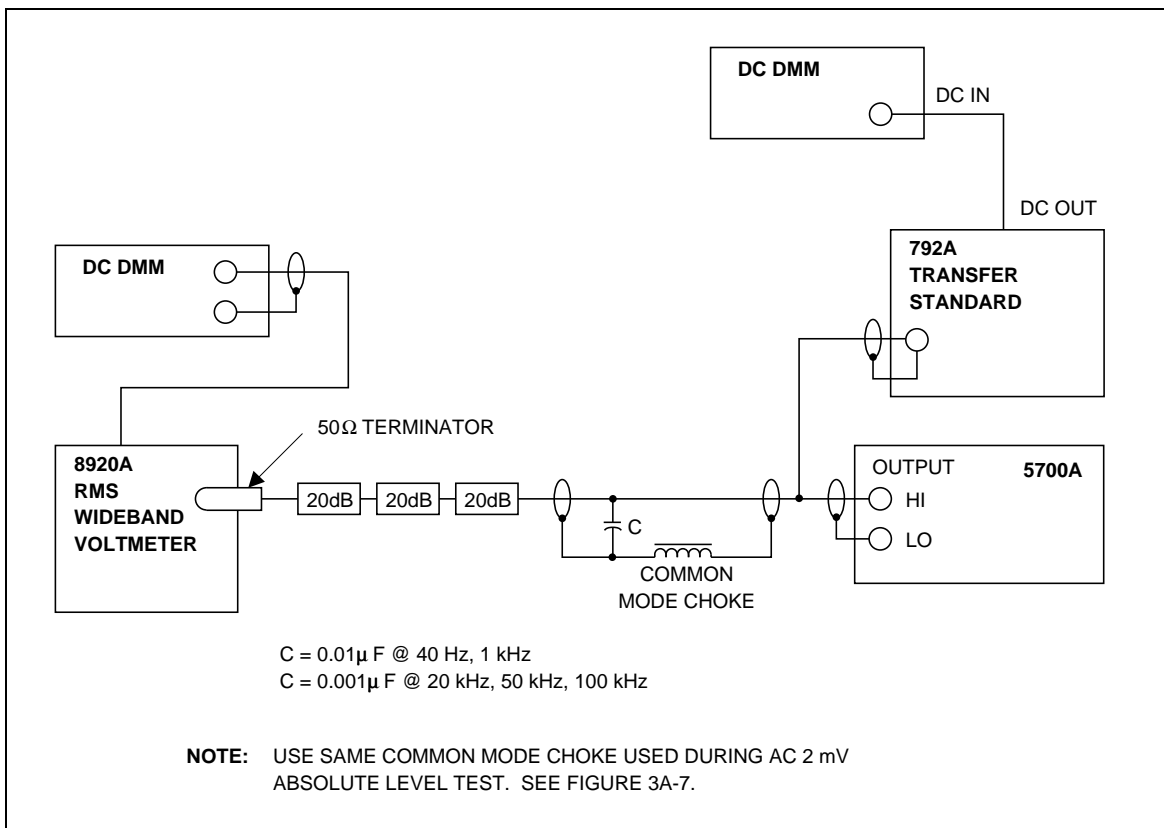

Figure 3A-18. AC 2 mV Flatness Test Setup
Common-Mode Choke	(Construction details in Figure 3A-8.)
- Set up the equipment as shown in Figure 3A-18. Use three 20 dB attenuators in series and a 0.01 μF capacitor across the input of the rms wideband voltmeter.